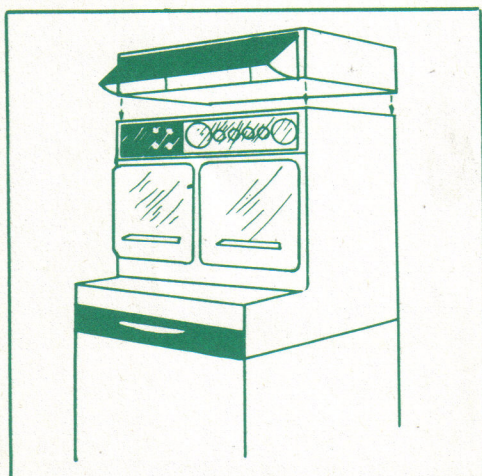

Fig. 6
ews provided. (Fig. 6)
1. Drill four (4) holes in range top at points indicated by a small dimple at each corner. NOTE: For ranges without dimples at the corners, use the hood as a template to locate the mounting holes.
5. Fasten hood to range top with screws provided. (Fig. 6)